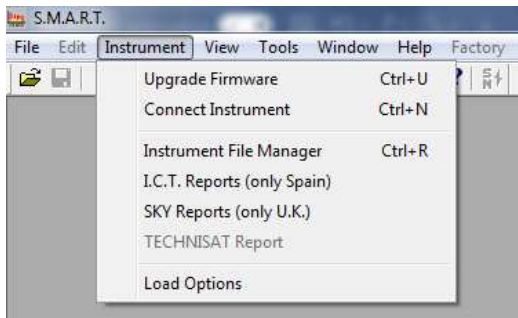

Fig.10 SMART: Instrument menu
- iv. Select “Connect Instrument” in the SMART Instrument menu (ref. fig.10),
- i. Select “Instrument File Manager” in the SMART Instrument menu (ref. Fig. 10),